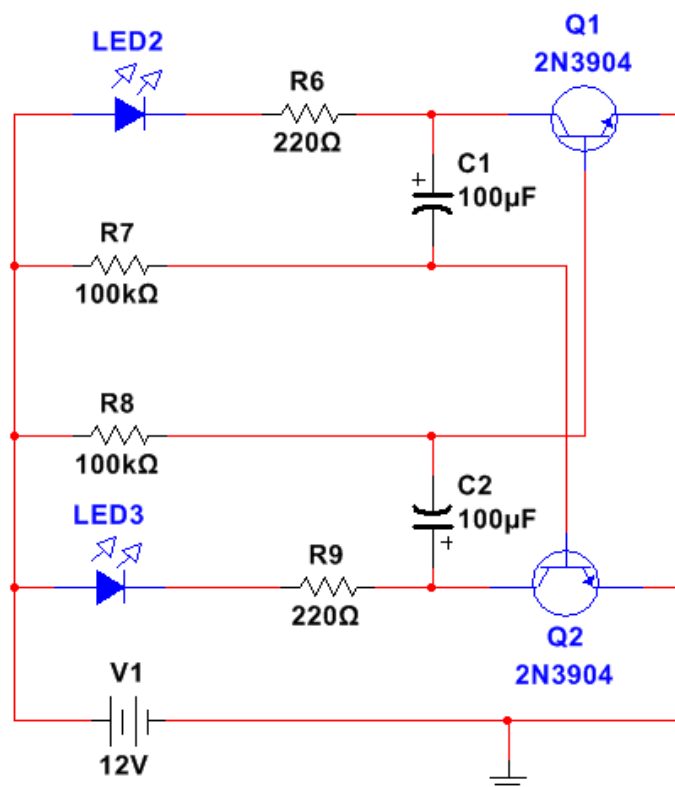

Figure 3- Flasher Circuit Schematic (right-hand side of prefabricated PCB)
- d. The right-hand side circuitry on your PCB contains an LED flasher circuit that uses R-C timing and two BJTs for switching. See Figures 3 and 4 for the schematic and PCB layout for this circuitry.